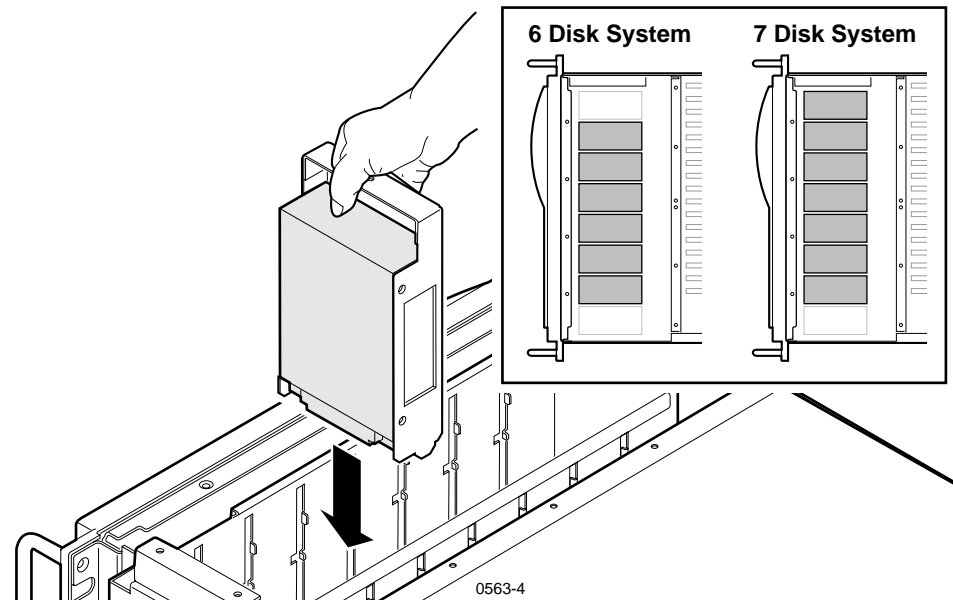

Figure 11. Disk Drive Caddie Orientation and Disk Drive Locations
2. Observing correct connector orientation (see Figure 11), reinstall the disk drives previously removed by sliding the drive caddie into the drive tray and firmly pressing down to connect the drive connector to the SCSI Backplane.
3. Observing correct connector orientation, in turn, slide each new drive into an unused caddie slot in the drive tray as shown in Figure 11 and firmly press down to connect the drive connector to the SCSI Backplane. Refer to Figure 11 to determine disk locations for six and seven disk systems.